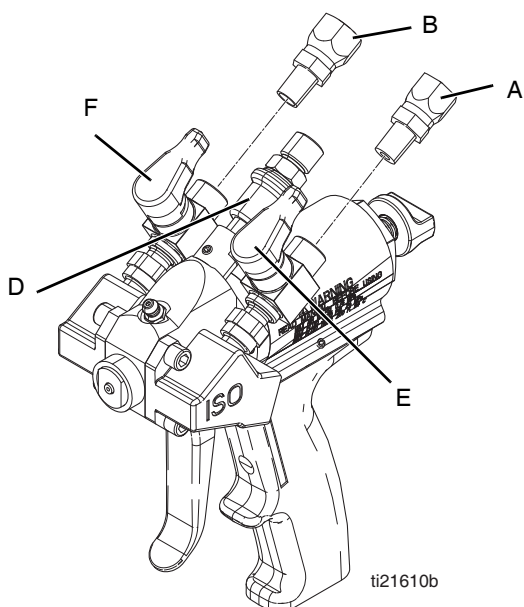

FIG. 4 Swivel Fitting Removal
2. Remove the swivel fitting connections (A, B) from the material shutoff valves (E, F) on the P2. See FIG. 4. The valve connections are 1/8 in. NPT female.
3. Remove the air hose from the supply air switch (D). The supply air switch fitting is 1/4 in. NPSM.